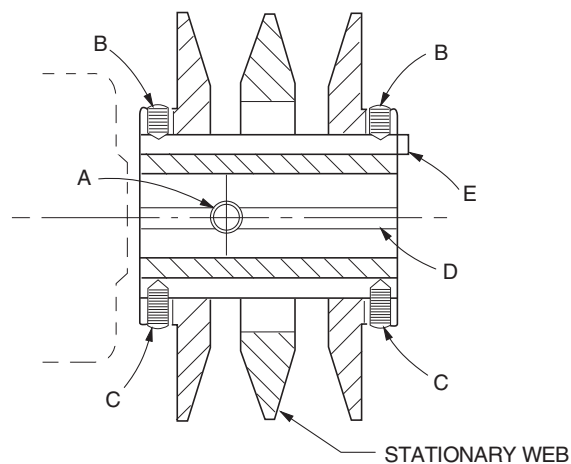

Figure 24: Double Groove Pulley
Twin groove blower motor pulleys should be installed with the shaft set screw (A) towards the motor (see Figure 24).